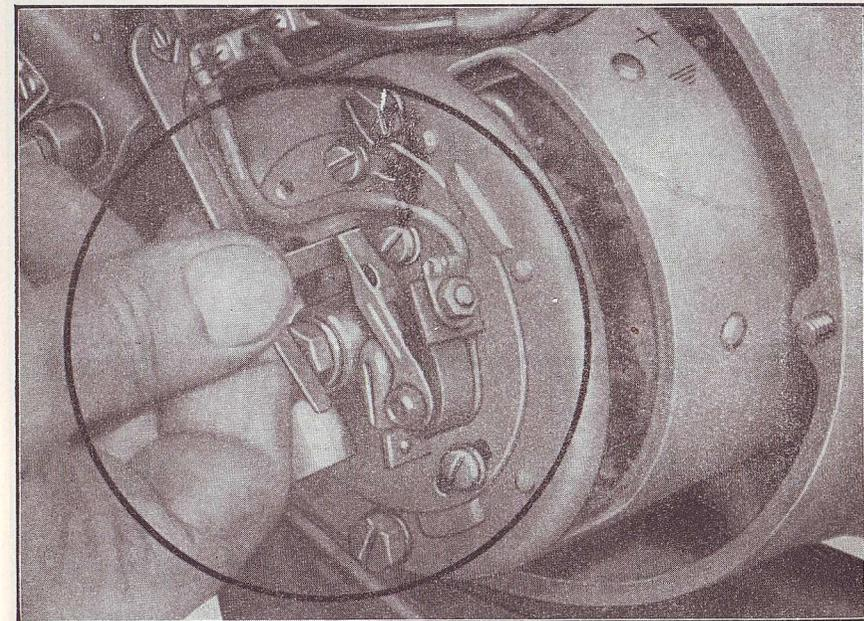

Fig. 30. Gauging the contact breaker point gap.
- c) In this position set the contact breaker point gap by means of the adjusting screw. Measure the gap with the feeler gauge (Fig. 30) supplied with the tools. The thinner feeler should pass between the points while the thicker one must not do so.